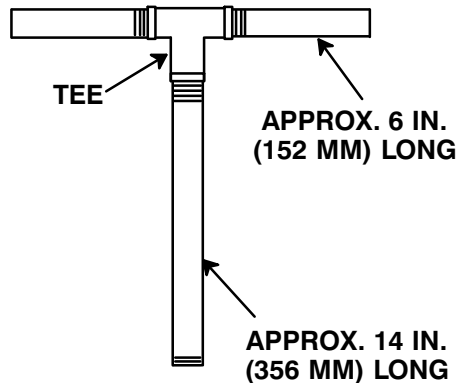

Figure 7. Rotating Assembly Tool
*An optional disassembly tool is available from the factory. If the tool is used, follow the instructions packed with it. A similar tool may be assembled using 1/2-inch pipe (schedule 80 steel or malleable iron) and a standard tee (see Figure 7). All threads are 1/2-inch NPT. **Do not pre-assemble the tool.***